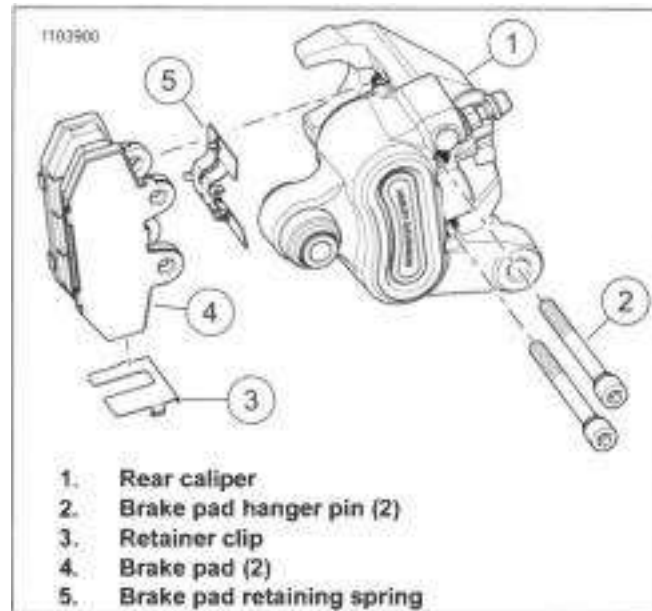

Figure 2-19. Rear Brake Pads
1. See Figure 2-19. Remove rear caliper (1). See REAR BRAKE CALIPER (Page 3-46).
2. Remove brake pad hanger pins (2).
3. Remove brake pads (4).
6. Inspect brake pad retainer spring (5). Replace if needed.
7. See Figure 2-19 and Figure 3-50. Remove retainer clip (3) from rear caliper mounting bracket.
1. See Figure 2-19. Install brake pad retaining spring (5).
2. Install **new** brake pads (4).
3. Install brake pad hanger pin (2). Hand tighten.
4. See Figure 2-19 and Figure 3-50. Install **new** retainer clip (3) onto rear caliper mounting bracket.